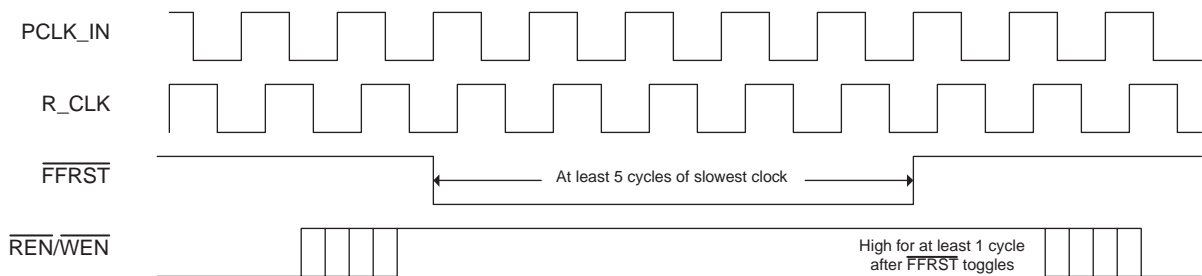

Fig. 16 Recommended External FIFO Reset Process
In external FIFO control mode, the internal FIFO address pointers are reset to zero (0) using $\overline{\text{FFRST}}$. A recommended external reset process is shown in Figure 16.